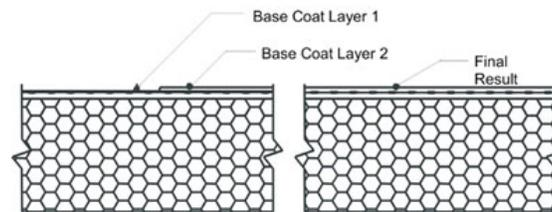

Fig. 31
- a. The Base Coat shall be applied such that the resulting overall minimum base coat thickness is sufficient to **fully embed** the reinforcing mesh. The recommended method is to apply the base coat in two (2) passes.
- 3) Allow the Dryvit Base Coat mixture to take up until firm to the touch. Trowel a second tight coat of the Dryvit Base Coat mixture over the first coat to **fully cover** the Dryvit Reinforcing Mesh - Figure 31. The result should be such that the Dryvit Reinforcing Mesh is approximately centered within the Dryvit Base Coat thickness. Do not allow the first pass to completely dry prior to the second pass application or an excessive amount of the Dryvit Base Coat mixture will be necessary to fully coat the wall surface.